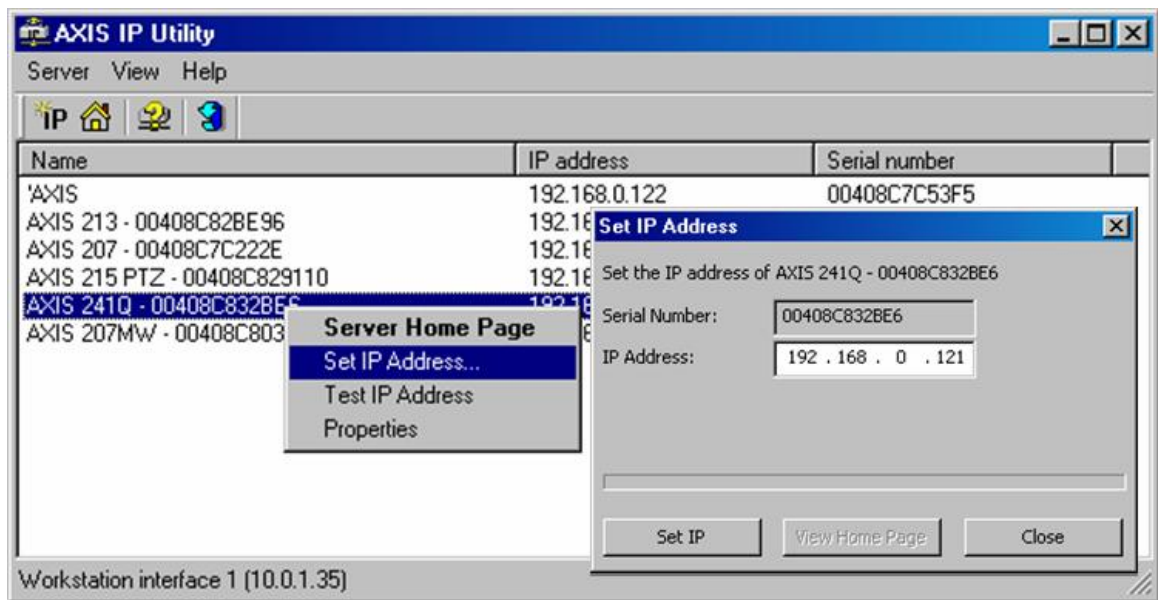

Figure 5.4.2-5
3. Check the IP-address assigned to the Axis IP-server. The IP-address is checked with the use of the command line, following the steps outlined in point 1 of the given section. If the IP-address is assigned correctly, the “ping the IP-address assigned by an administrator, e.g. 192.168.0.95” command will generate the response shown in Figure 5.4.2-6 .